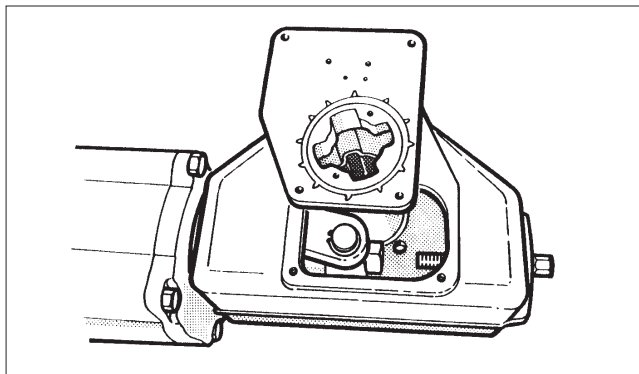

Fig. 14 Mounting the cover on the housing
- Apply bearing unit screw (29) thread with a sealant, e.g. Loctite 225, and tighten the screw as in Table 2.
- Fasten the housing cover temporarily so that the secondary shaft bearings function but the linkage can still be seen, see Fig. 14. Note the grounding rings (3A, 4A).